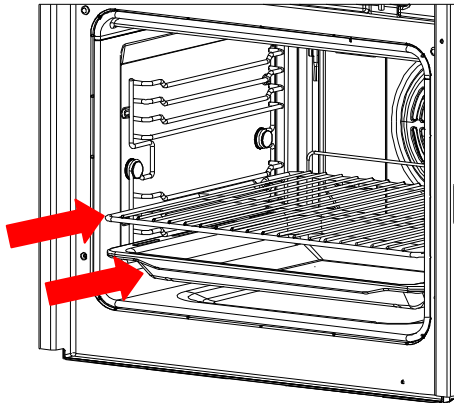

Figure 3
C. Installing the grill (See figure 3) :